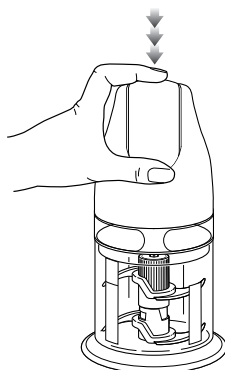

Fig. 5
- 9 To start the appliance, plug the power cord into the electrical outlet, securely hold Master Pod while operating and press on the On/Off pulse button located on the top of the Master Pod. (fig. 5)